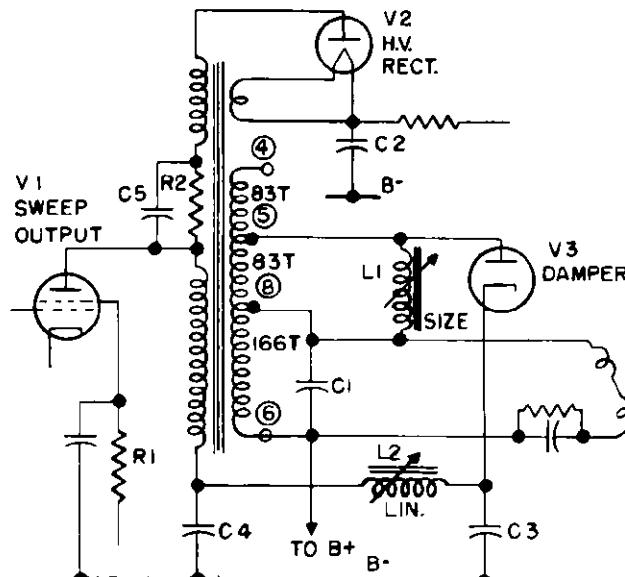

FIG. 2. SCHEMATIC
TO INCREASE SWEEP WIDTH (Refer to Figure 2):
1. Size Control--The greater the inductance of the size control (L1 in Figure 2), the less power it will absorb from the output circuit resulting in greater sweep width. The Stock RLD-014 size control used in the majority of our TV receivers has the least inductance. The use of Stock RLD-019 (intermediate) or RLD-018 (maximum inductance) will permit an increase in sweep width of approximately 1/4-inch and 1/2-inch respectively when they are substituted for the RLD-014 control. The location of the size control across the transformer secondary also determines to what extent the size will be varied. Greatest sweep width is obtained by connecting the size control across the secondary taps with the fewest turns such as between terminals 5-8 or 5-4.
2. Capacity Loading--By adding capacity across the secondary of the sweep output transformer (C1 in Figure 2), the sweep width is increased --- the greater the capacity, the greater the sweep width up to a critical point. The more capacity added, the slower will be the retrace with the result that foldover of the picture takes place after the capacity is increased too much. Usually values of capacity up to 1000 mmf. between terminals 6-8 may be added before running into this difficulty. The addition of capacity also results in a lowering of the picture tube high voltage. Since a high peak voltage exists across this winding, a mica capacitor of 750-1000 volt rating should be used for this purpose.